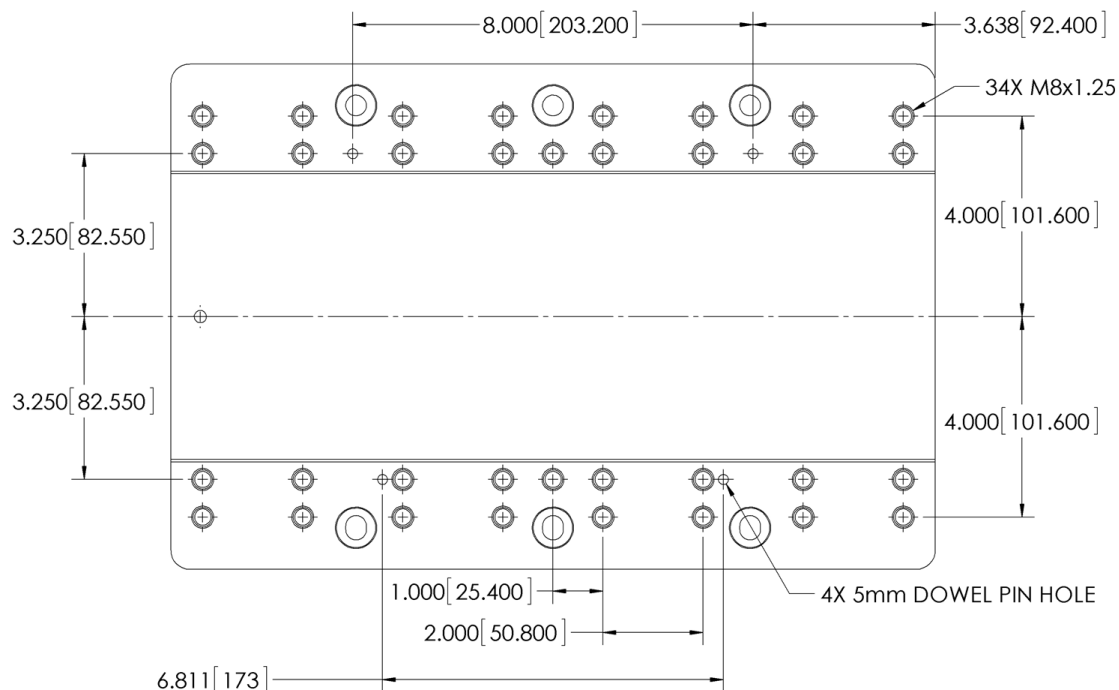

Figure 1: Carriage Bolt Hole Pattern
The bolt pattern on the Carriage has been designed to facilitate process equipment installation. The Carriage has (34) thirty-four M8x1.25 mounting holes with a depth of 0.47 inch (12 mm) to provide secure attachment points. The mounting holes are spaced 8 inches (203.2 mm) across and on 2 inch (25.4 mm) centers along the length of the Carriage. (See Figure 1) The Carriage also has (4) four 5mm dowel pin holes to facilitate alignment. (See Figure 1 for location) These dowel pin holes are oversized to allow the pins to be glued into place using Loctite 609, or equivalent. **Only utilize 4 of the M6x1 mounting holes; using more than 4 may cause warping of the carriage.**